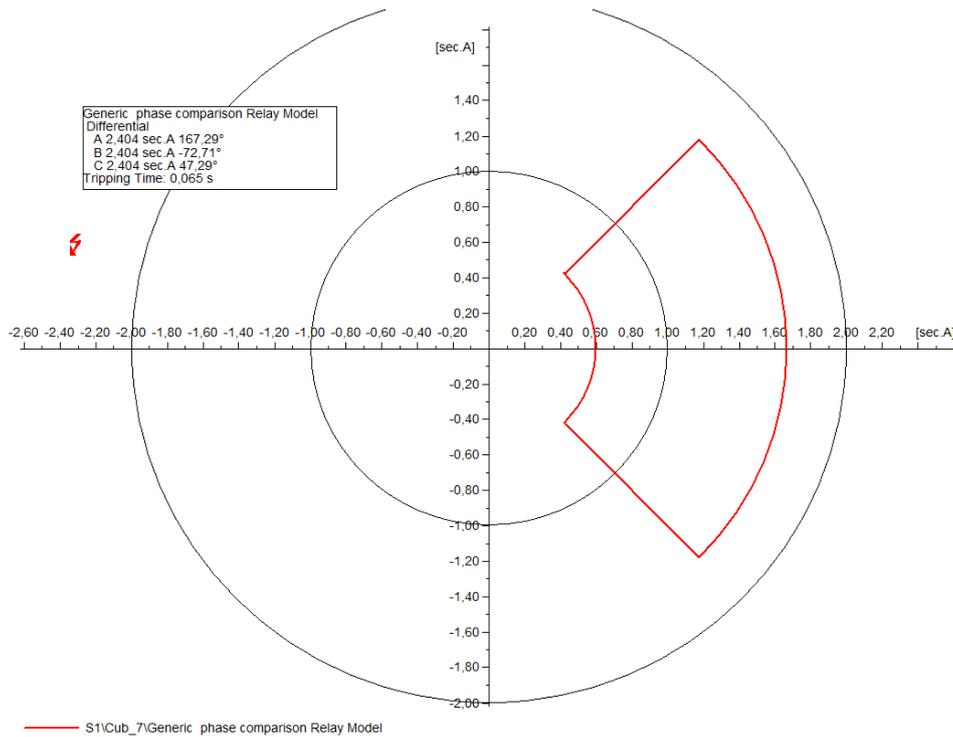

Figure 3.10: Phase angle based differential protection diagram
- A phase comparison diagram (alpha plane), as shown in Figure 3.10. This diagram consists of an angular restraint region area with an optional minimum and maximum current magnitude limitation.